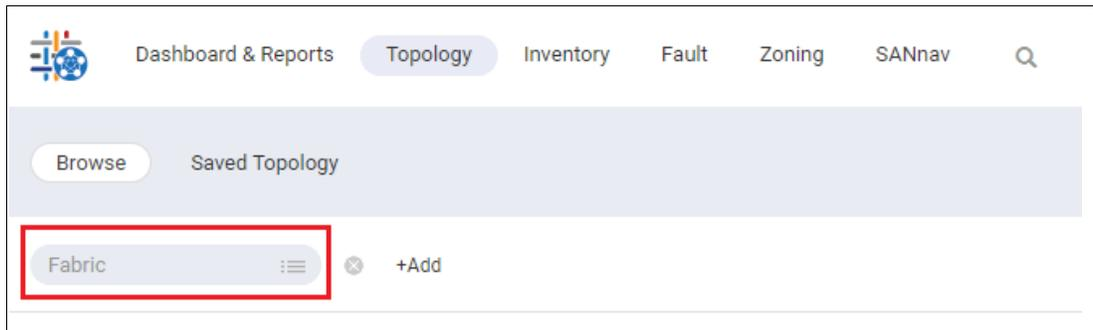

Figure 5-83 Viewing the fabric topology
3. In the Fabric context field, click the menu icon to select a fabric, or type the fabric name directly into the context field. SANnav provides suggestions as you type (Figure 5-83).